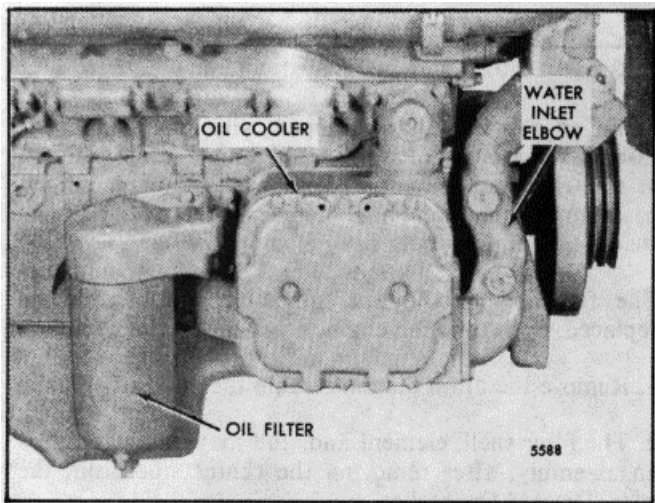

Fig. 15. - Typical Full-Flow Filter Mounting (6V-92 or 8V-92 Engine)
Engines are equipped with a full-flow type lubricating oil filter. If additional filtering is required, a bypass type oil filter may also be installed. The full-flow filter assembly can be remotely mounted or mounted on the engine (Fig. 15). A bypass valve, which opens at 15 psi (103 kPa), is located in the filter base to ensure engine lubrication in the event the filter should become plugged.
1. Remove the drain plug and drain the oil (Fig. 15).